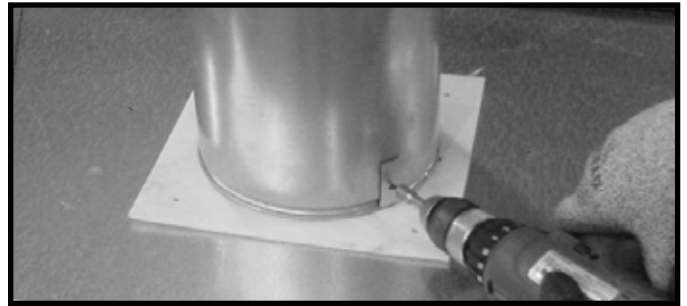

Figure 6.3 Gasket in Place (Generic Fireplace Shown)
2. Locate the fiberglass gasket in the manual bag. Attach the gasket to the outer wrap using two self-tapping screws. This creates a seal between the first vent component and the outer fireplace wrap. Figure 6.3 shows the gasket in place.